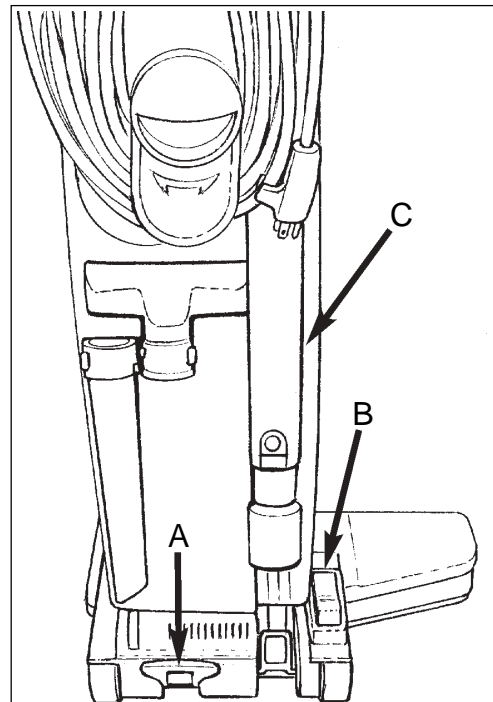

Figure 8
### **The Handle Release Pedal** (See figure 8, item A)
### **The Height Adjustment** (See figure 8, item B)
### **The Wand** (See figure 8, item C)
4. Press the handle release pedal (see figure 8, item A).